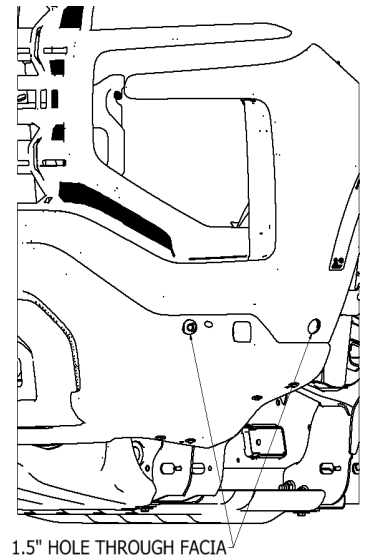

FIGURE 4
- C. Once hole positions are marked, use a 1.5" diameter hole saw to drill holes into the fascia. Rough location of the driver side hole can be seen in Figure 4. This will need to be done for both sides, flip the template over to use on passenger side.